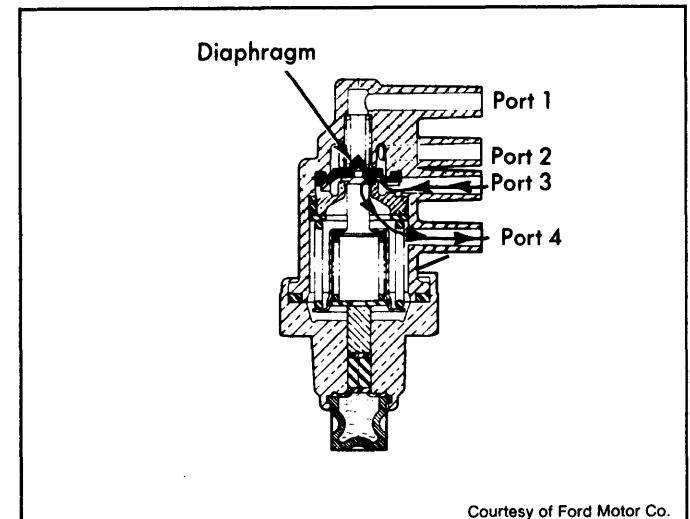

Fig. 6: Sectional View of 4-Port PVS
2) Using a vacuum gauge and external vacuum source, check that vacuum flows from port 1 and port 2. No vacuum should flow from port 3 or port 4. See Fig. 6.